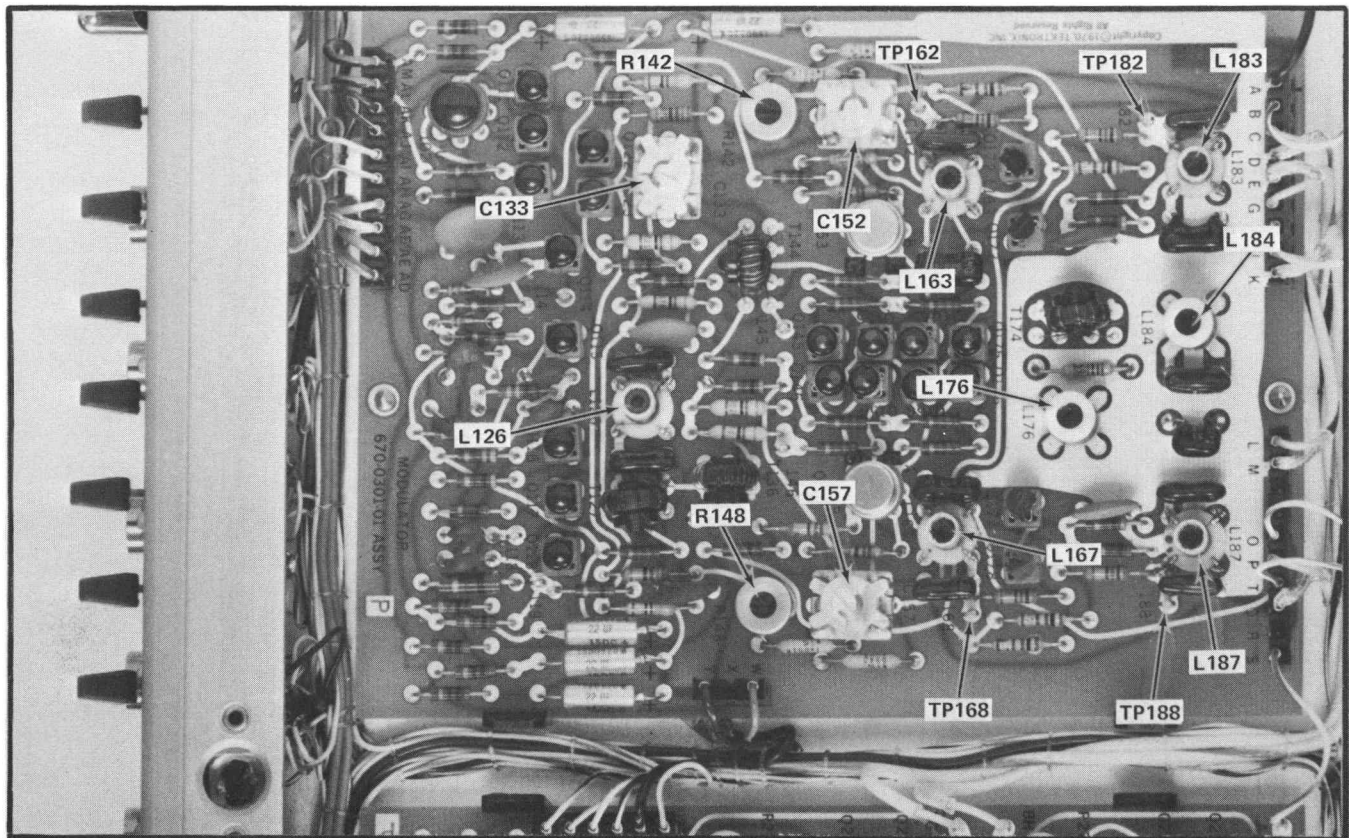
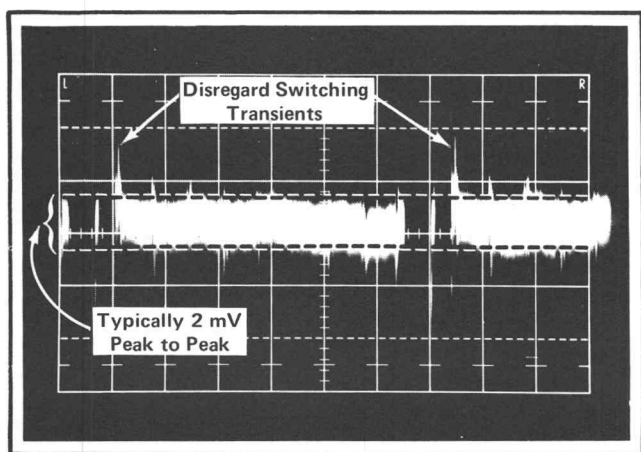

Fig. 6-6. Demodulator board test point and adjustment locations.
Fig. 6-7. Typical test oscilloscope display obtained after adjustment of chroma null.
a. Connect a properly compensated 10X probe from TP188 on the Demodulator board (see Fig. 6-6) to the Type 1A5 A Input connector.
c. ADJUST—C152, C157, R142, and R148 (see Fig. 6-6) for a chroma null. (Disregard switching transients typically 2 mV after null.) See Fig. 6-7.
d. ADJUST—C133 (see Fig. 6-6) for best overlay of dots.
d. ADJUST—L126 (see Fig. 6-6) to overlay the chrominance.
e. ADJUST—L176 and L184 (see Fig. 6-6) for minimum overshoot, overlay, and crossover of the chrominance envelope; see Fig. 6-9B.
- e. READJUST—L126 (see Fig. 6-6) to overlay the chrominance envelopes within 2.5 mV.